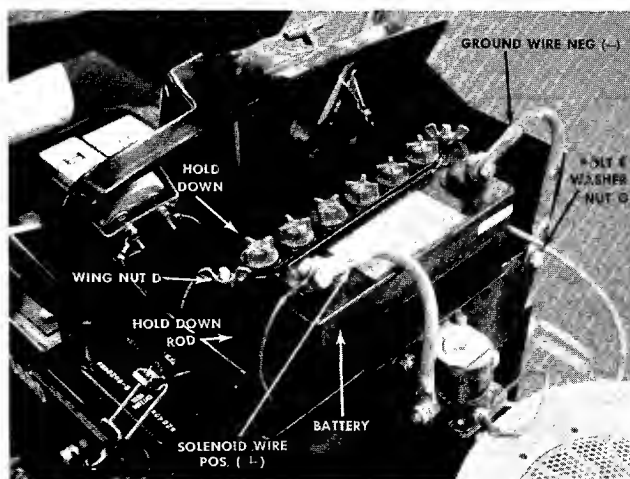

FIGURE 5. INSTALLING THE BATTERY
- Place the battery with the terminals to the **FRONT** in the battery case. See figure 5.